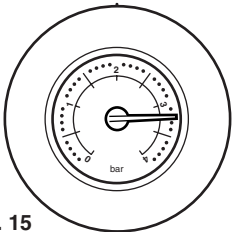

Fig. 15
3. A pressure of 3 or greater indicates a fault. The safety pressure relief valve will operate, at a pressure of 3 (Fig. 15). **It is important that your Installer or Service Engineer is contacted as soon as possible.**